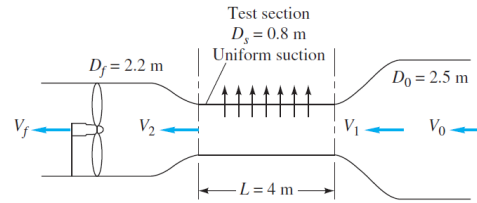

Fig. 3.11
- 3.11 In some wind tunnels the test section is perforated to suck out fluid and provide a thin viscous boundary layer. The test section wall in Fig. 3.11 contains 1200 holes of 5 mm diameter each per square meter of wall area. The suction velocity through each hole is $V_s = 8 \text{ m/s}$, and the test-section entrance velocity is $V_1 = 35 \text{ m/s}$. Assuming incompressible steady flow of air at 20°C , compute a) V_0 , b) V_2 , and c) V_f , in m/s .